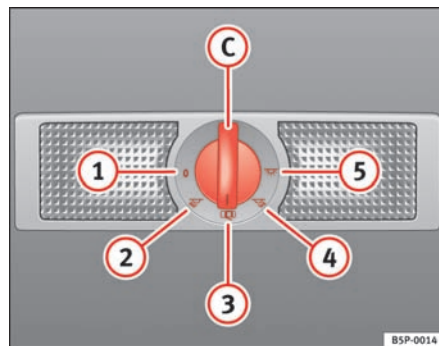

Fig. 77 Interior light
- In switch position ① ⇒ fig. 77, the interior and reading lights are switched off.